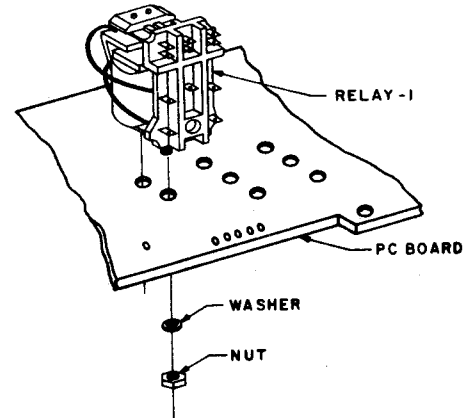

Figure 3-11: Relay-1 Mounting
- b. Install RELAY-1 to the PC Board and secure as shown in Figure 3-11.